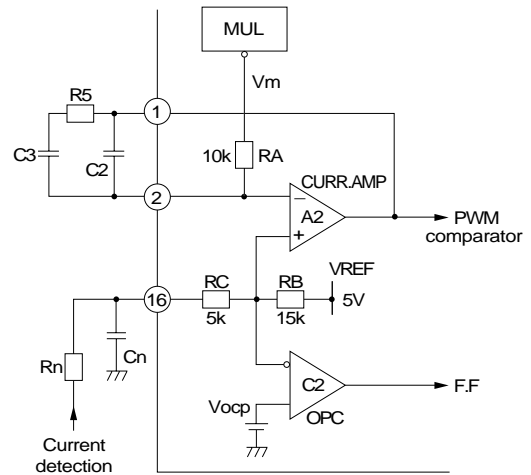
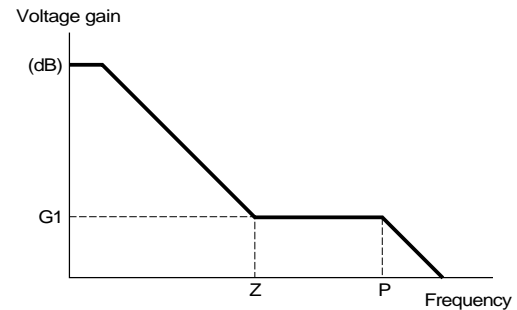

Fig. 3 Current error amplifier and overcurrent limiting circuit
Fig. 4 Voltage gain-frequency
The current error amplifier forms a current loop to change the input circuit current into sinusoidal waves. As Fig. 3 shows, the multiplier output is connected to pin 2 (IIN –) through a resistor (RA) to input the reference current signal. Pin 16 (IDET) is a current input terminal. Design the circuit so that the voltage at pin 16 will be within the range from 0 (GND potential) to –1.0V. Connect a phase correction resistor and capacitors across pin 1 (amplifier output) and pin 2. See Fig. 4 for the expected gain characteristics of the circuit shown in Fig. 3.
As Fig. 3 shows Vm is internally connected to pin 2 (IIN –) of the current error amplifier A2 through a 10kΩ resistor. (See the characteristic curve, page 66 for the input and output characteristics of the multiplier.)